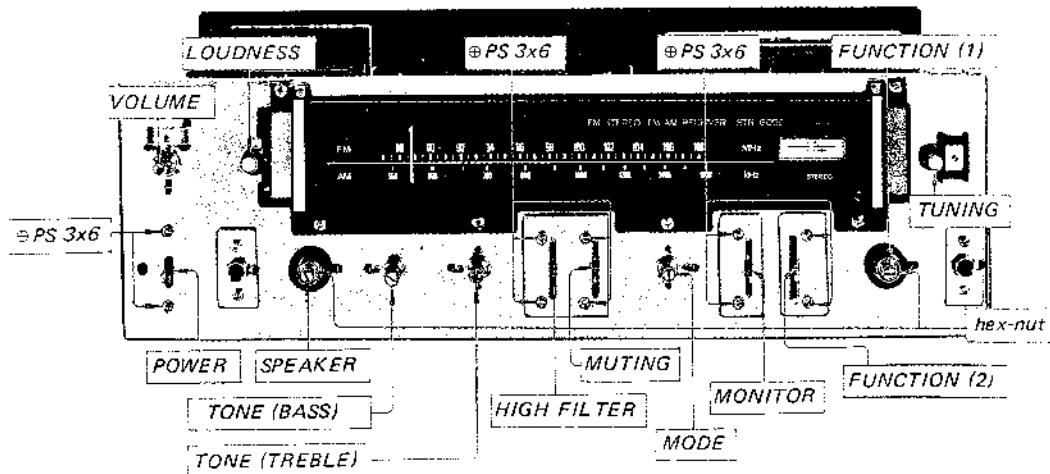

Fig. 2-15. Control and switch replacement
Prepare for replacing any of the controls or switches by removing the top cover and the front panel as described in Procedures 2-3 and 2-4. Refer to Fig. 2-15.
1. Remove the two screws (\oplus PS 3x6) securing switches to the front subchassis as shown in Fig. 2-15.
2. Remove the hex nuts that secure the switches to the front-subchassis as shown in Fig. 2-15.